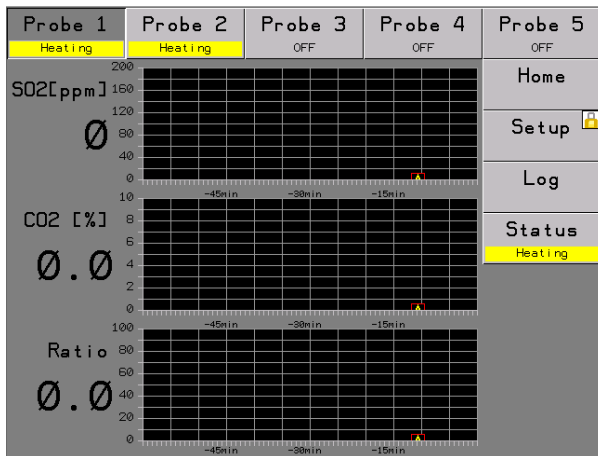

Figure 4-4: Probe 1 – Probes and analyzing cabinet in heating state
- **Heating:** the probe is in warming up period (see Figure 4-4)